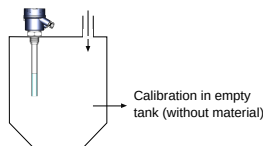

Figure 44: Calibration without Material
- Dip the Coat-Endure into test tank as shown in Figure 44.